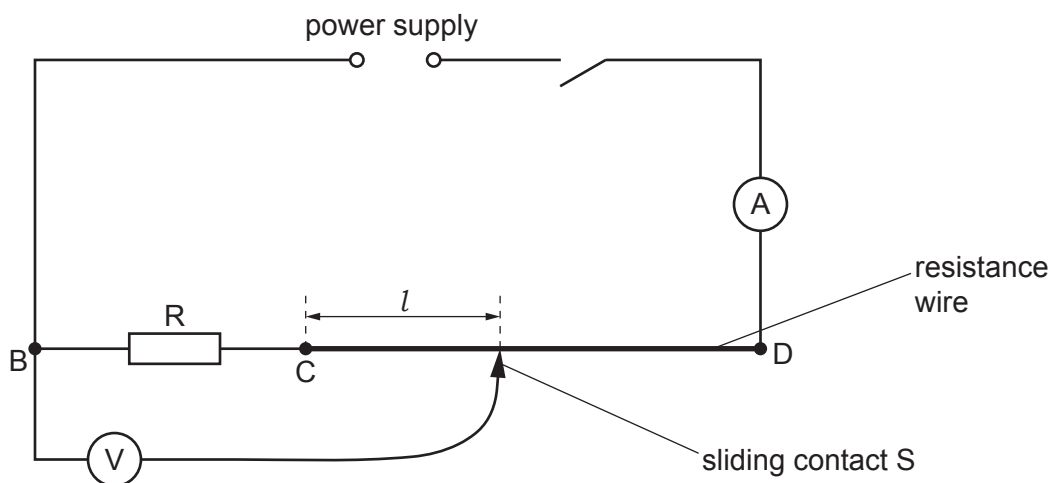

Fig. 3.1
- (vii) Two suitable terminals (e.g. crocodile clips) attached to the constantan wire at the ends of the metre rule so that connections can be made to the circuit shown in Fig. 3.1.
- (ix) Sufficient connecting leads to set up the circuit shown in Fig. 3.1.
1. The circuit is to be set up for the candidates as shown in Fig. 3.1.
Check that the circuit is arranged as shown in Fig. 3.1.